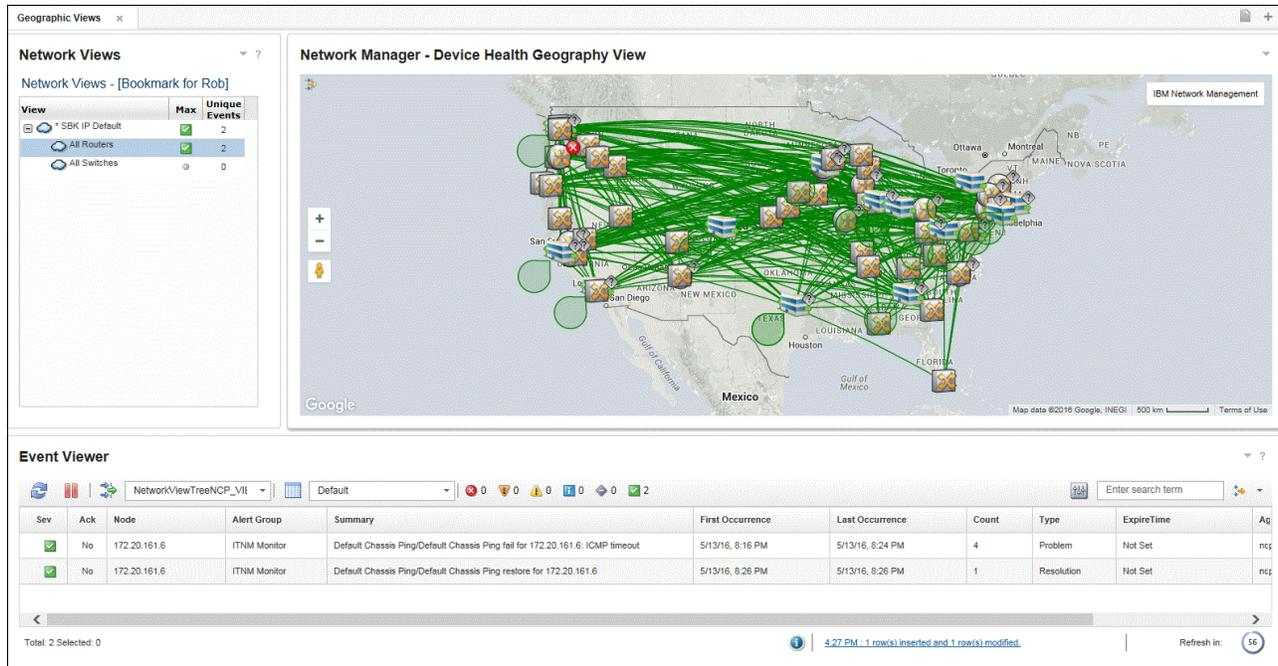

Figure 3-5 Custom Geographic Views page
Click a view to change the context of the geographical map and all events for devices in that view. Click a device or Building site icon to see events for that device or site, only (see Figure 3-5 on page 73).
5. Click **Network Manager Widgets** and drag the Dashboard Network Views onto the workspace and expand it (as shown in Figure 3-5 on page 73) or to your own design.